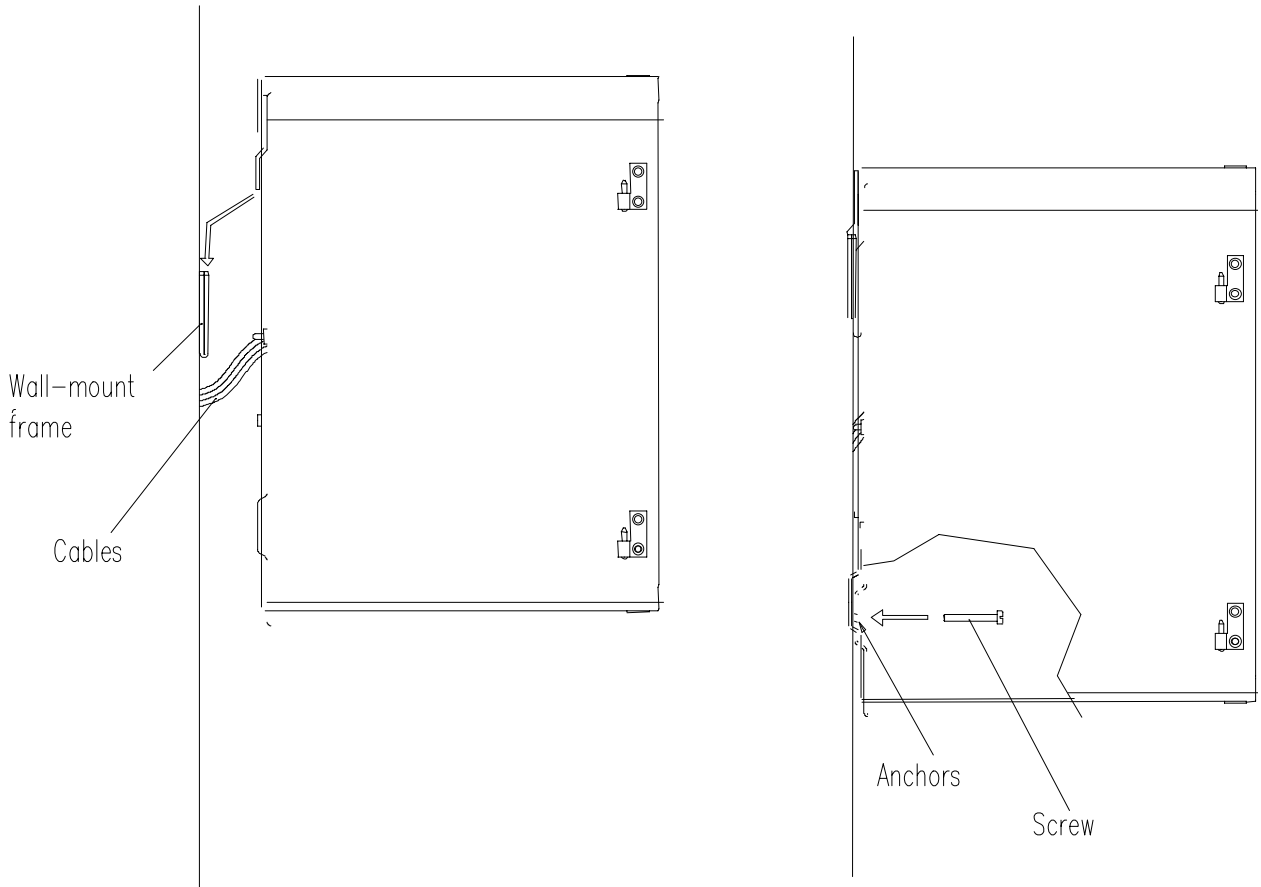

Figure 5. Hooking on to the Wall-Mount Frame
2. Hook the power supply on to the wall (see Figure 5).
6. Hook the power-supply box to the wall-mount frame and screw in the fastening screws (see Figure 5).